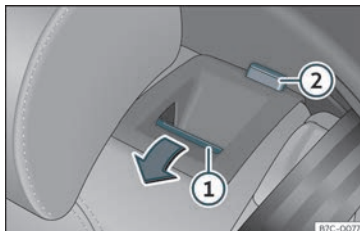

Fig. 107 Rear seat: folding the backrest.
- Pull the unlock button»» **Fig. 107 1** forward and lift the backrest at the same time. The rear seat backrest is not engaged when the red marking of the button **2** is visible.